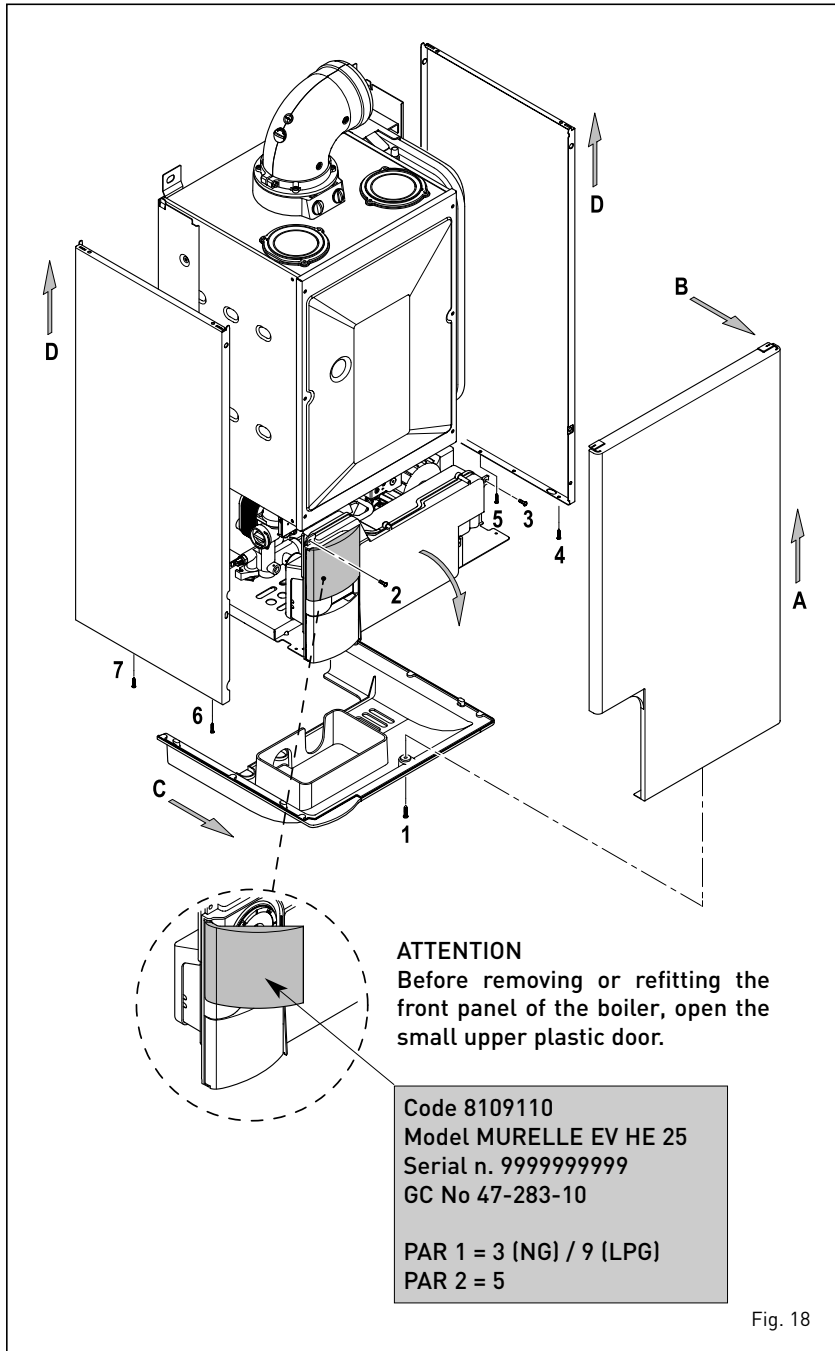

Fig. 18
4.4 REMOVING THE COVERS (fig. 18)
It is possible to completely remove the covers for easier access as shown in fig 18. The control panel can be hinged forward after removing the front cover